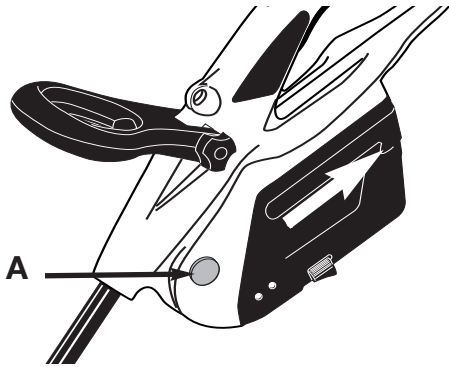

Fig. 6
To charge the battery pack it must first be removed from the trimmer. To remove the battery pack. Put the trimmer horizontally on the ground at first. Then grasp both sides of the battery pack and depress the battery clip (A) as shown Fig. 6. Now gently pull the battery pack from the housing.